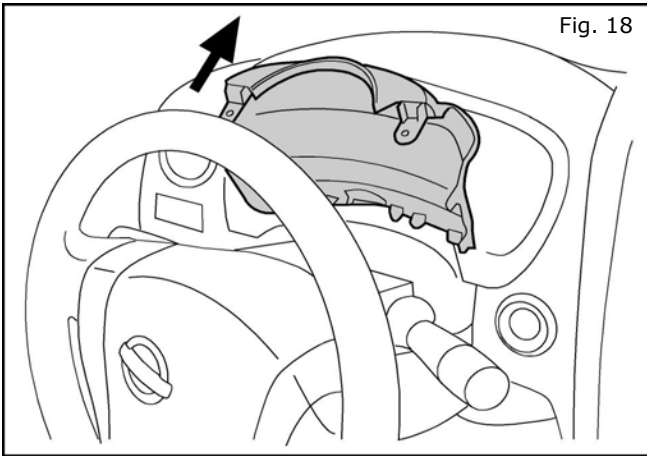

Fig. 18
27. **Reinstall** the upper steering finisher (see Fig. 18).